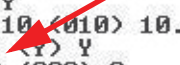

Figure 4-21 Assigning Netmask
14. Type **Y** to set the Netmask. type the desired Netmask value and press **Enter**. See Figure 4-21.